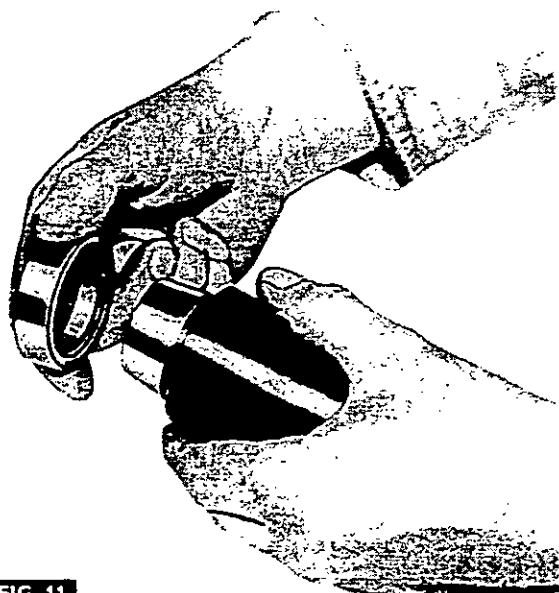

FIG. 11
4. Fig 11. Assemble special tool MF 255B, then slide the oil seal (32) (metal face first) on to the tool.
6. Refit the two rings (39) to the input shaft (38), ensuring that the interlocking ends of the rings are properly engaged.
7. Slide the p.t.o. input shaft (38) into the housing, securing it with the large snap ring (41).
8. Carefully slide the special tool MF 255B on to the p.t.o. input shaft, then drive the seal (32) fully into place.
9. Refit the spool valve (24) to the input housing with the four Allen screws (22) and lockwashers.
10. Fit a new 'O' ring (35) to the rear spigot of the input housing.
11. Fit the seal protector MF 177 on the front of the main input shaft (54), then carefully slide the input housing assembly into place.